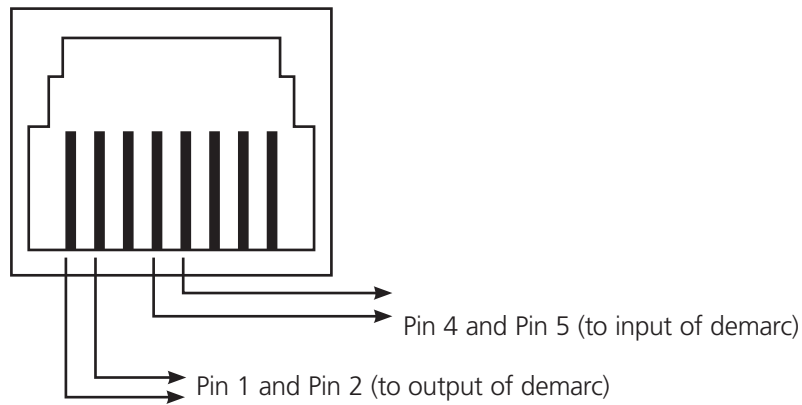

Figure 3-2. RJ-48 port pin assignment.
2. Connect the T1/E1 line to the BNC or RJ-48 connectors on the back panel. Figure 3-2 describes the RJ-48 pin assignment.